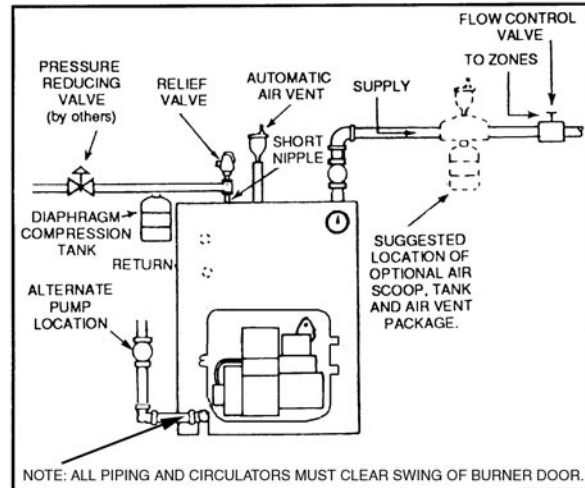
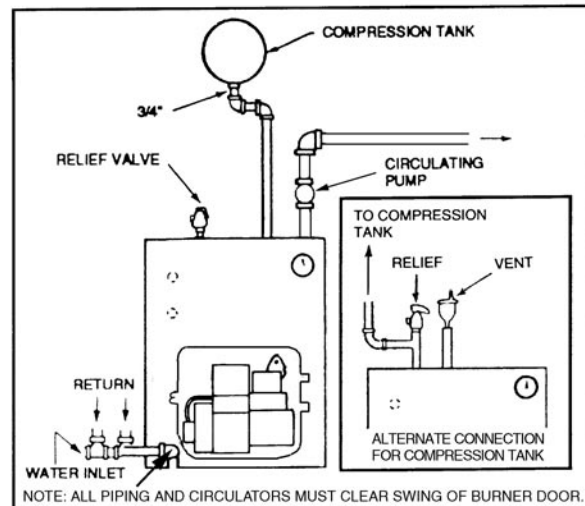

Figure 6. Air Eliminating System
Figure 7. Air Collecting System
- B. A **FLOW CONTROL VALVE** (See figure 6) will prevent gravity circulation and usually is required when tankless heater is installed.
- A. **DIAPHRAGM-TYPE COMPRESSION TANKS** are used to control system pressure in an **AIR ELIMINATING SYSTEM**: an automatic air vent is used to REMOVE air from the system water. See figure 6. If system pressure needs further control, add an additional tank or install a larger capacity tank. The automatic air vent should be installed in the top of the boiler, as in figure 6.
- B. **CONVENTIONAL COMPRESSION TANKS** (non-diaphragm type) are used to control system pressure in an **AIR COLLECTING SYSTEM**. Within the system, after initial start-up and venting, air is collected in the tank and acts in contact with the water to control pressure. Air is not vented from this system. If system pressure needs further control, add another tank in parallel with the original tank or install a large capacity tank. Locate the tank at the inlet end of the pump near the boiler. (See figure 7)
D. **PUMP LOCATION**-Locating low-head pump(s) on return to boiler is only acceptable in residences of one or two stories. (See figure 6) The pump location shown in figure 7 is required in large, multi-story building installations, especially when high-head pumps are used and is also recommended for all applications.
E. A conventional compression tank may be connected to the 3/4" tapping as shown in figure 7.
**IMPORTANT:** Hot water heating systems containing high water volume, such as would occur with cast-iron radiation, require special care with air elimination. The circulator pump should be located on the boiler supply pipe and the expansion tank and air scoop should be located near the pump suction. (See Figure 6, Alternate Pump Location.)